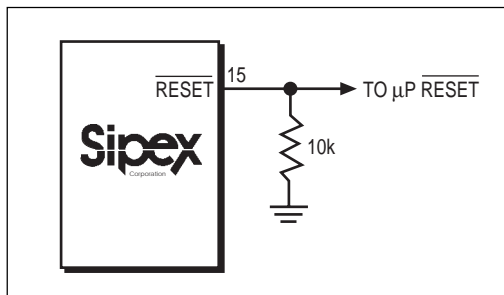

Figure 4. Adding an external pull-down resistor ensures $\overline{\text{RESET}}$ is valid with V_{CC} down to GND.
1.6mA at $V_{OUT} - 0.5\text{V}$. When no backup battery is used, $\overline{\text{RESET}}$ output is valid down to $V_{CC} = 1\text{V}$, and an external 10k Ω pull-down resistor on RESET ensures that RESET will be valid with V_{CC} down to GND as shown on Figure 4. As V_{CC} goes below 1V, the gate drive to the $\overline{\text{RESET}}$ output switch reduces accordingly, increasing the $r_{DS}(\text{ON})$ and the saturation voltage. The 10k Ω pull-down resistor ensures the parallel combination of switch and external resistor is 10k Ω and the output saturation voltage is below 0.4V, while sinking 40 μA . When using a 10k Ω external pull-down resistor, the high state for the $\overline{\text{RESET}}$ output with $V_{CC} = 4.75\text{V}$ is 4.5V typical. For battery voltages greater than or equal to 2V, RESET remains valid for V_{CC} between 0V and 5.5V. RESET will be asserted during the following conditions: